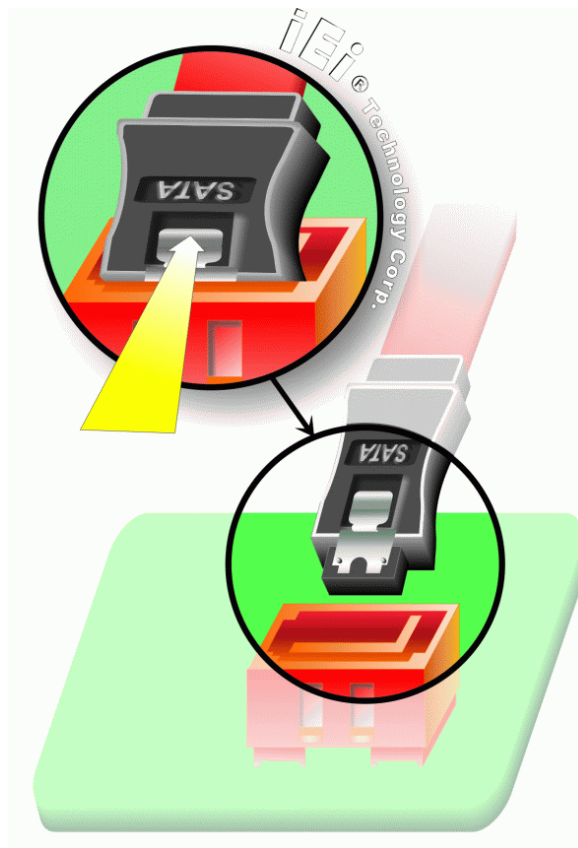

Figure 5-13: SATA Drive Cable Connection
Step 2: Insert the cable connector. Press the clip on the connector at the end of the SATA cable and insert the cable connector into the onboard SATA drive connector. See **Figure 5-13**.